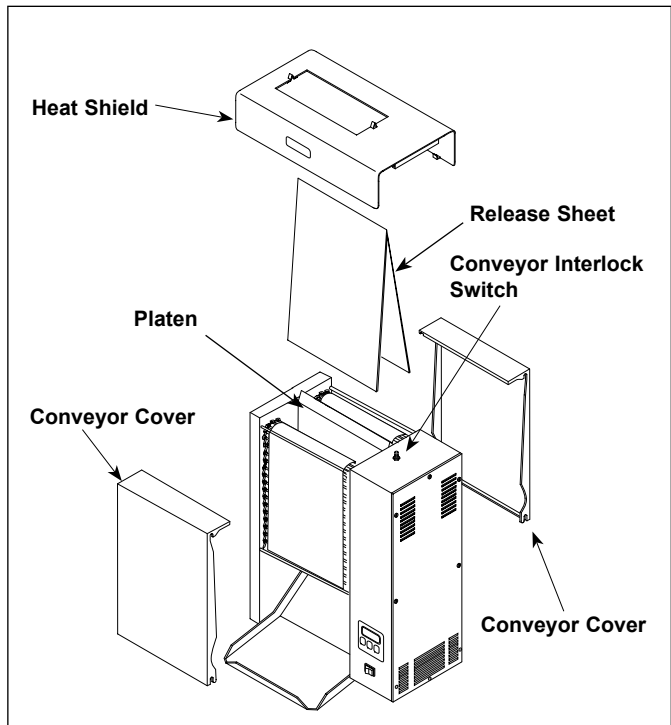

Figure 4. Installing Release Sheet
- plastic bag containing the release sheet (Figure 4)
6. Install the release sheet by draping it over both sides of the platen surface. The crease should be centered directly on top of the platen (Figure 4).
7. Re-install the front and rear conveyor covers (Figure 4).
8. Install the heat shield assy. The heat shield clips fit over the top of the platen and retains the release sheet (Figure 4).
IMPORTANT: Make sure heat shield assy. is activating (depressing) the conveyor interlock switch (see Figure 4). The conveyors will not rotate unless the heat shield is in place and interlock switch is activated (depressed).